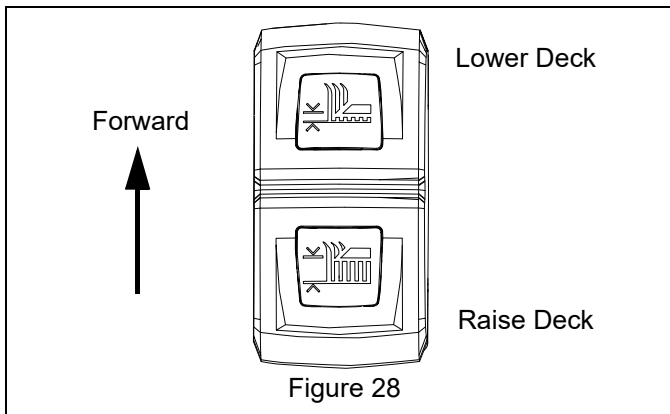

Figure 28
- Verify that deck lowers when front of switch is pressed and that deck raises when back of switch is pressed. See Figure 28.